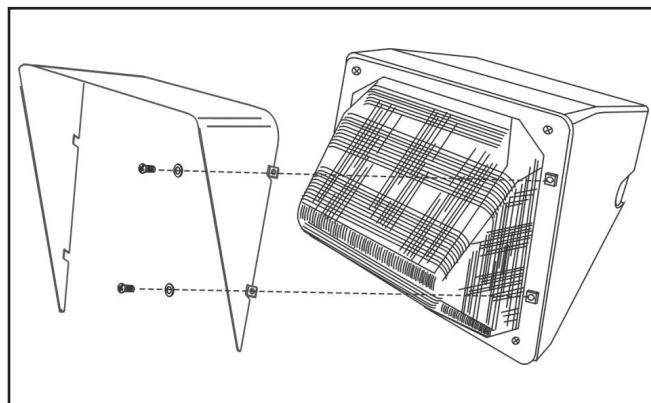

Figure 2.
2. Use the enclosed screws and washers to mount the visor according to (Figure 2.).